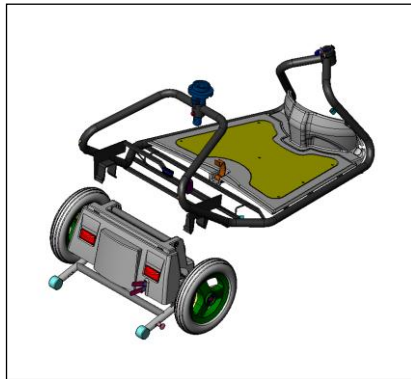

Figure 23
- Pull up the frame from the square bracket of the power unit and lay it on the side (**See Figure 23**).